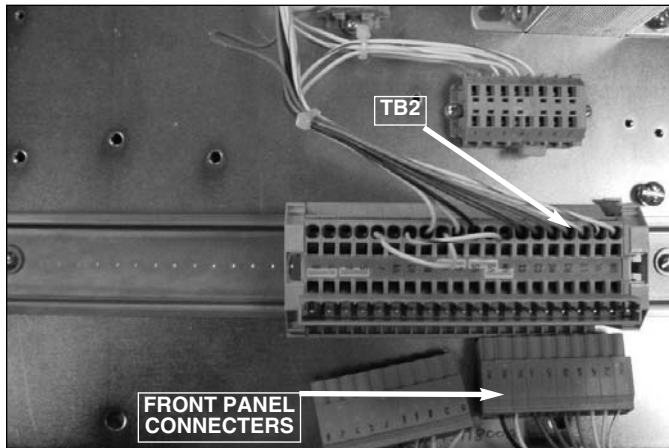

Figure 3.
5. Unplug the CL6 wiring harness from TB2, the bottom terminal board on the back panel (See Figure 3).